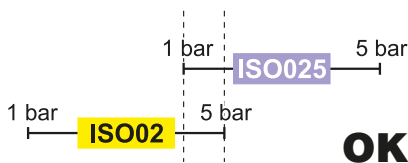

Fig. 105
• **Compatible nozzles:** the rate at 1 bar of the ISO025 nozzle is LOWER than the rate at 5 bars of the ISO02 nozzle (Fig. 105).